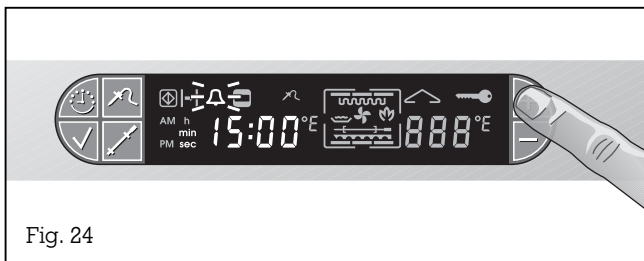

Fig. 24
- Press the + key. The short time symbol  $\Delta$  flashes (Fig. 24).